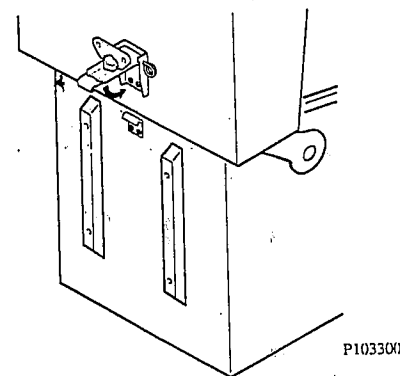

FIGURE 4: LATCH ON BACKBOX
6) Lift the cabinet latch and flip key upwards to the upright position. Turn the key counter clockwise (to the left) (see Figure 4).